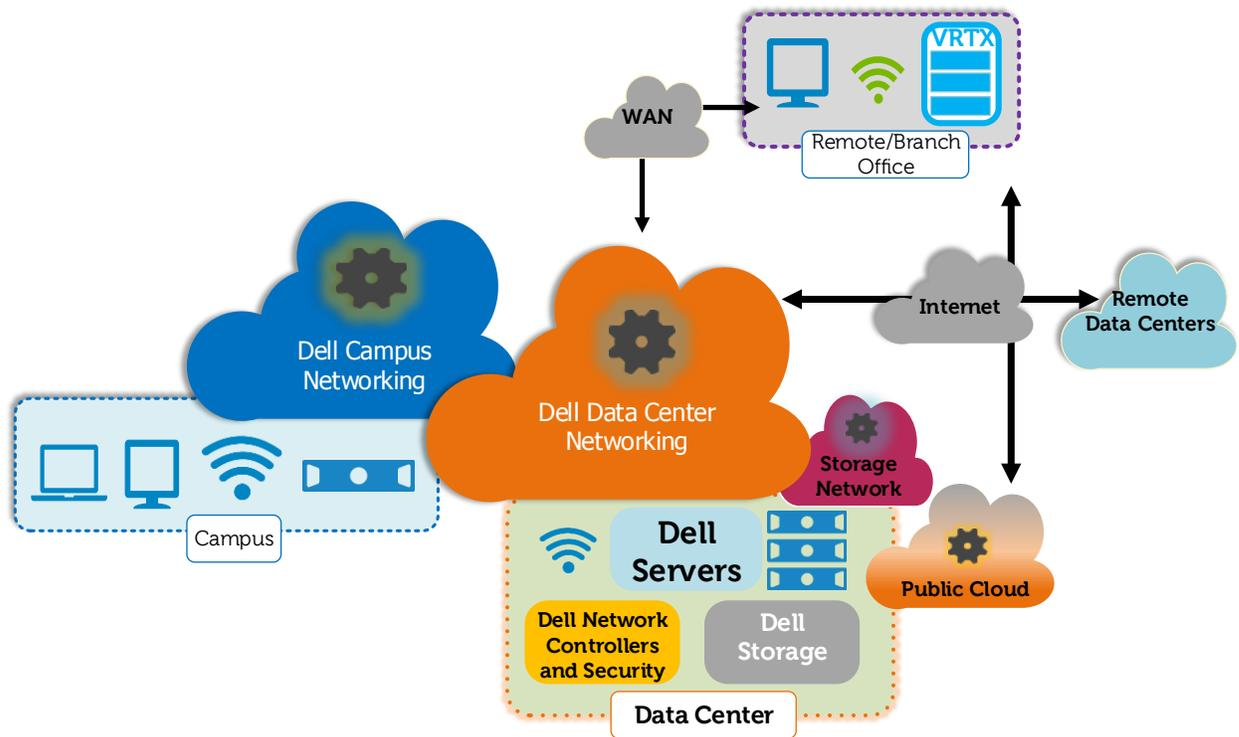

Figure 1 Networking architecture overview
This guide focuses on data center Ethernet and storage Fibre Channel (FC) networks (Figure 1). In particular, the ability of the FN2210S I/O Module to handle Ethernet and Fibre Channel traffic while also providing fabric services that enables direct connectivity to FC storage.